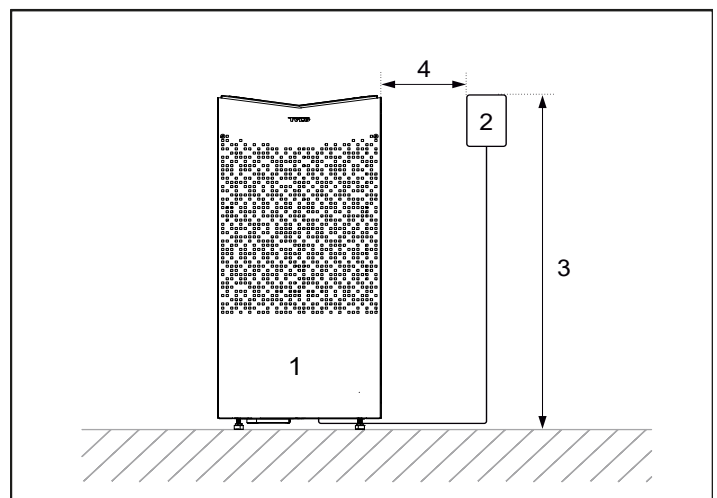

Figure 5: Safety distance / installation height, control panel
- Plan the control panel positioning (see the attached instructions for the control panel for allowable positioning). See also the Control Panel section, Figure 5.
Where possible, placement of the control panel outside the sauna room is recommended due to lower ambient temperatures. The control panel may be placed inside a Tylö sauna room or a self-built sauna room with correct ventilation which operates according to Tylö-recommended ventilation (natural ventilation principle). Read the sections titled, Positioning the intake vent and Positioning the outlet vent in these instructions. The control panel must always be placed outside the sauna cabin if these requirements are not met. If installing the control panel inside the sauna cabin, it should be positioned with regard to safety distances and installation height, see Figure 5. For private/domestic use – the Control panel must be installed within line of sight of the sauna room.